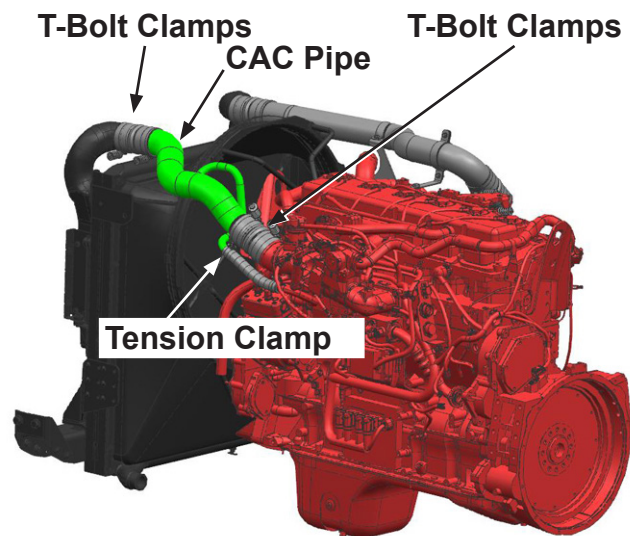

Figure 1
3. Remove and discard the CAC pipe by first loosening the T-Bolt clamps and then, using standard pliers, removing the tension clamp, and set aside for reinstallation (See Figure 1).
4. Install the new CAC pipe (A2190245-001) and tighten the T-Bolt clamps to 72 in-lb/6 ft-lb of torque. Reinstall the tension clamp (See Figure 1).